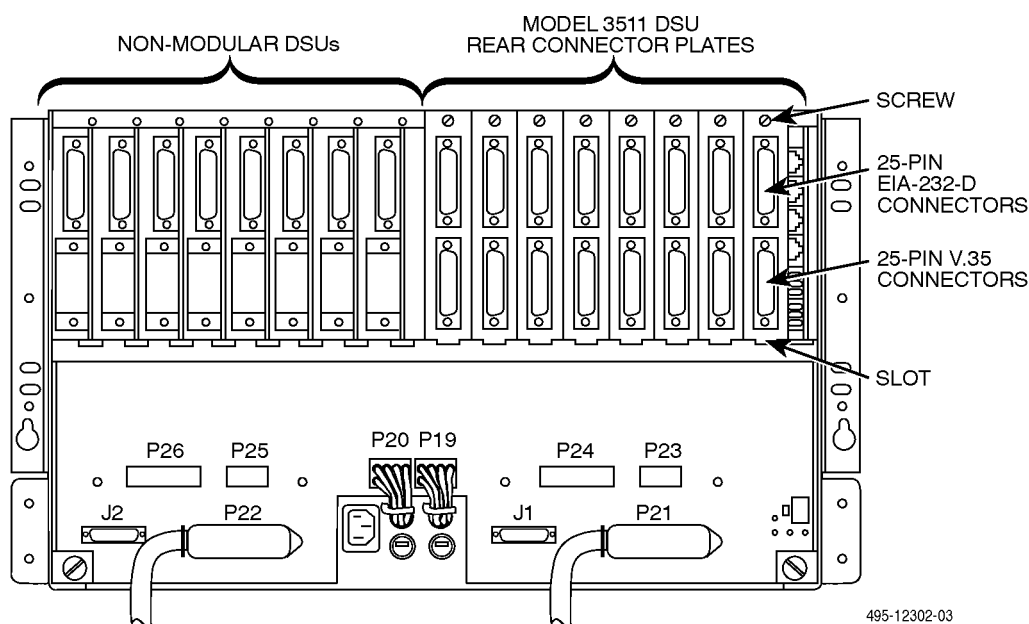

Figure 4-3. Rear View of the COMSPHERE 3000 Series Carrier
When modular circuit cards are installed with non-modular cards in the same carrier, modular circuit cards like the Model 3511 DSU must be installed on the left side of the carrier (see Figure 4-3).
2. At the rear of the carrier, set the tab on the rear connector plate into one of the slots on the carrier's backplane (Figure 4-3). Make sure the rear connector plate uses the same slot position intended for the DSU.
9. At the rear of the carrier, connect the DTE interface cable onto the rear connector plate (see Figure 4-3).